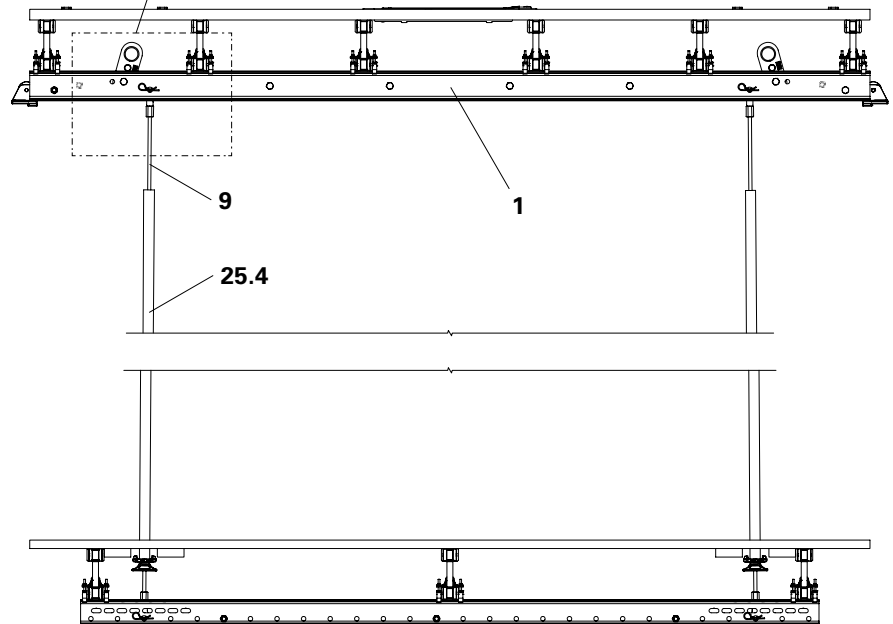

Fig. B5.04
Mount the finishing platform on the Platform Beam BR (1) of the Shaft Platform using four Tie Rods DW 15 (9). The suspended scaffolding tube (25.4) prevents unintentional loosening of the Tie Rods from the eye nuts. (Fig. B5.04)